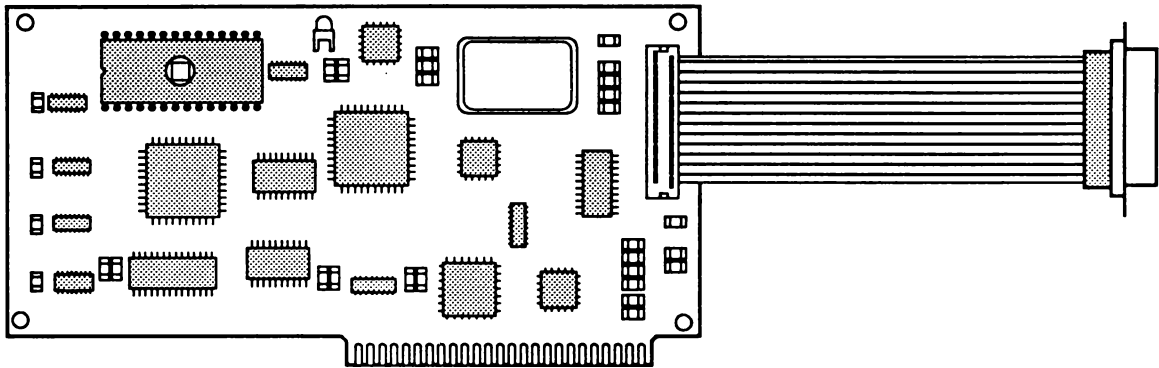

Figure 10
- IPL.13 Apple II 3.5 Disk Controller Card (Figure 10)
□ **APPLE II 3.5 DISK CONTROLLER CARD (Figure 10)**